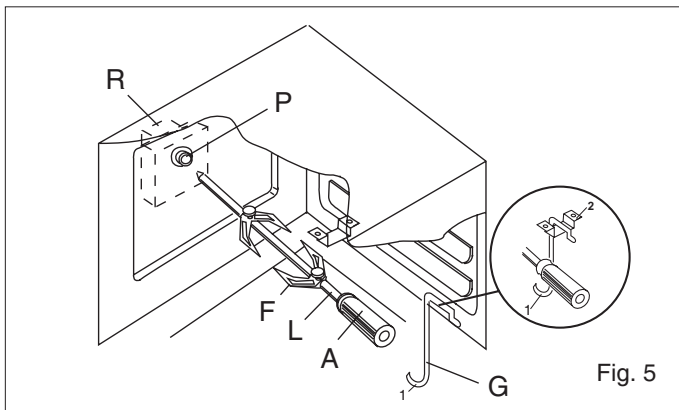

Fig. 5
- Put the food in spit **L** (see fig. 5), paying attention to block it within the two forks **F** and to balance it, in order to avoid any unnecessary effort in motor **R** (fig 5).
- To remote the spit, operate in the opposite direction using knob **A** and protecting glove in isolating wool (see fig. 5).